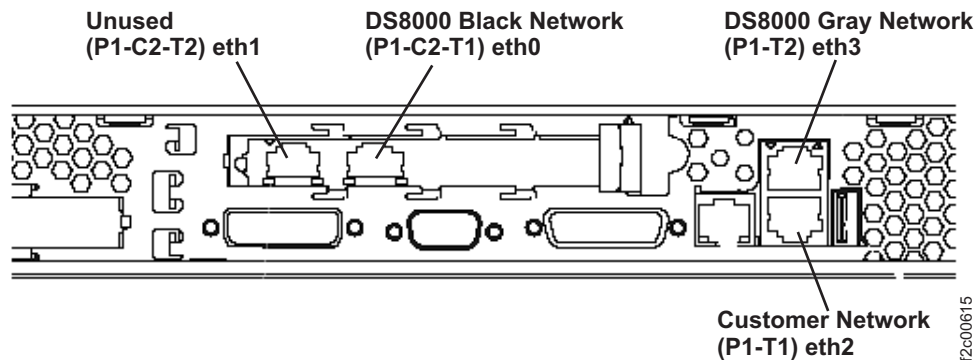
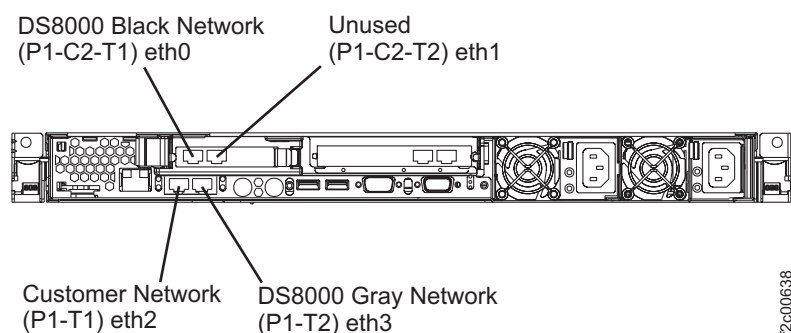

Figure 86. Ethernet connectors on the rear of the X335 management console server
Figure 87. Ethernet connectors on the rear of the X336 management console server
Figure 86 (X335 server), Figure 87 on page 111 (X336 server), and Table 88 on page 111 contain location code information for the management console (MC) server. For part numbers, see “Management console (MC) part numbers” on page 38.